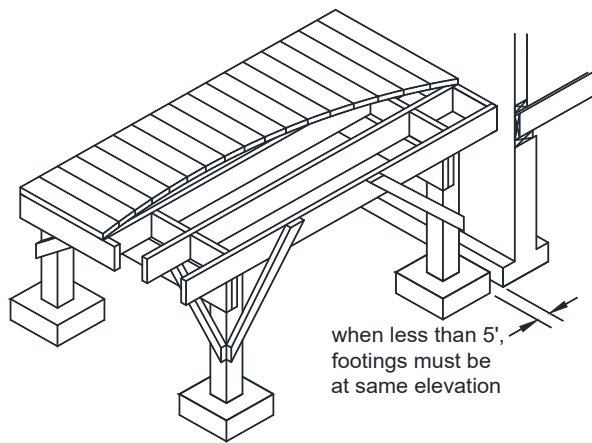

FIGURE 16: FOOTINGS ADJACENT EXISTING HOUSE
- When the edge of a deck footing is closer than 5 feet to an existing exterior house wall, the footing must bear at the same elevation as the existing house footings as shown in FIGURE 16.